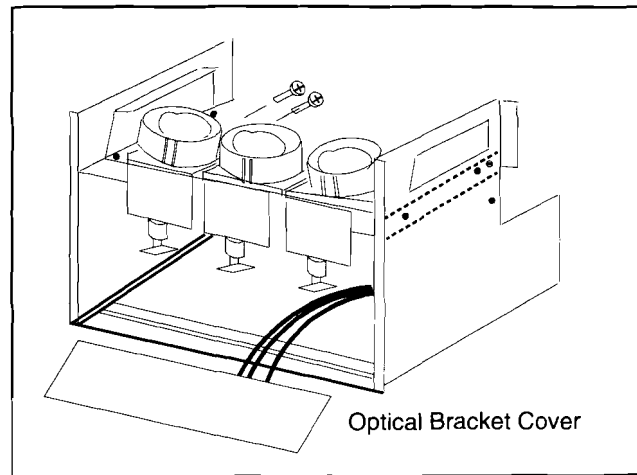

Figure 14. CRT Replacement.
7. Remove (2) screws from the defective CRT housing (Figure 14).**